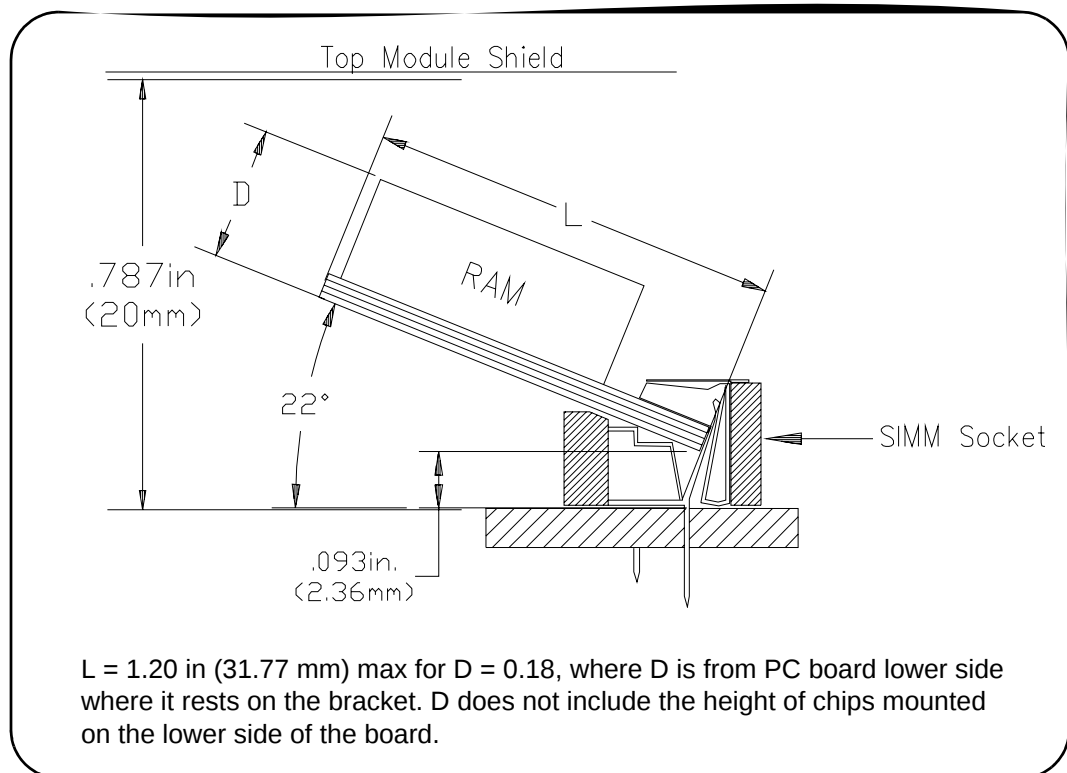

Figure 1-3. Adding RAM to the Module
The VT1563A/VT1564A has about 17.6 mm of space from the bottom of the SIMM RAM inserted in the socket to the top module shield (see Figure 1-3). You must verify that the SIMM RAM you purchase for replacement on the module has a depth (D) that will clear the top module shield. You can use the 4 Mbyte SIMM RAM you remove as a guide, as well as the dimensions in Figure 1-3, when purchasing your upgrade RAM.